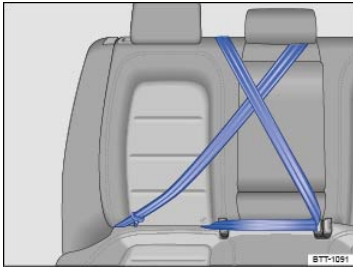

Fig. 76 Keep unused safety belts away from children in child restraints.
You must take special precautions when installing a LATCH/UCRA child restraint behind the front passenger or driver seats. Always route the center safety belt and the unused safety belt for the seating position where the child restraint is being installed securely out of the child's reach. Securing the safety belts will help prevent a child from playing with an unused safety belt and becoming entangled with it ⇒ Fig. 76.
- Buckle the safety belt ⇒ Fig. 76.
You must take special precautions when installing a child restraint with the vehicle safety belt or with LATCH/UCRA lower universal anchorages behind the front passenger seat or behind the driver seat. Always route the center safety belt and the unused safety belt for the seating position where the child restraint is being installed securely out of the child’s reach. Securing the safety belts will help prevent a child from playing with an unused safety belt and becoming entangled with it ⇒ Using a child restraint on the rear seat , ⇒ Fig. 76.
You must take special precautions when installing a child restraint with the vehicle safety belt or with LATCH/UCRA lower universal anchorages behind the front passenger seat or behind the driver seat. Always route the center safety belt and the unused safety belt for the seating position where the child restraint is being installed securely out of the child's reach. Securing the safety belts will help prevent a child from playing with an unused safety belt and becoming entangled with it ⇒ Using a child restraint on the rear seat, ⇒ Fig. 76.